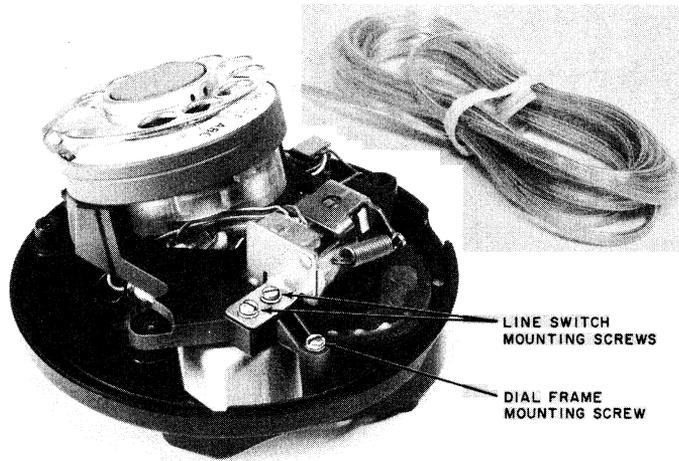

Fig. 5—Removing Line Switch and Dial Mounting Frame
- (2) Remove one dial frame and two line switch mounting screws from the base and remove dial frame and line switch (Fig. 5).